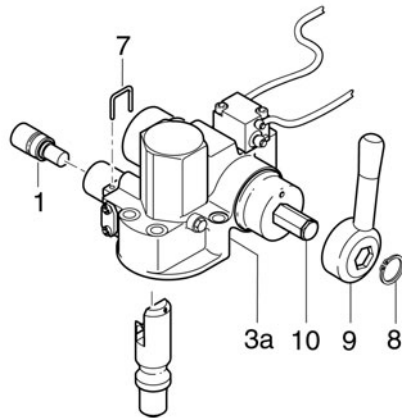

Fig. 2
2. Replacement of the safety system (see fig. 2)
- Safety shackle is to be bent up and wire bar (7) withdrawn
- Safety system (1) should be completely extracted out of the housing
- Insert the new wire bar (7)
- Press hand lever (9) gently upwards: check-up the movement of the safety system (1)
3. Replacement of the hand lever (see fig. 2)
- Remove circlip (8) with circlip pliers **A1** from hand lever axle (10)
- Dismantle hand lever (9)